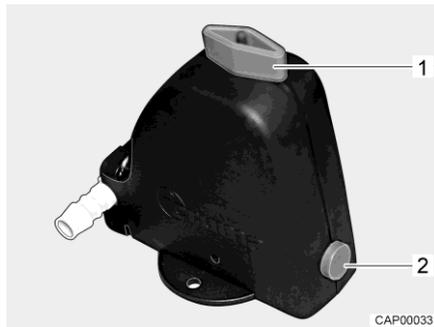

Fig. 275 Safety/drainage valve (Truma)
- Close the safety/drainage valve (Truma). Turn the knob (Fig. 275,1) perpendicular to the safety/drainage valve and push the push button (Fig. 275,2) in.